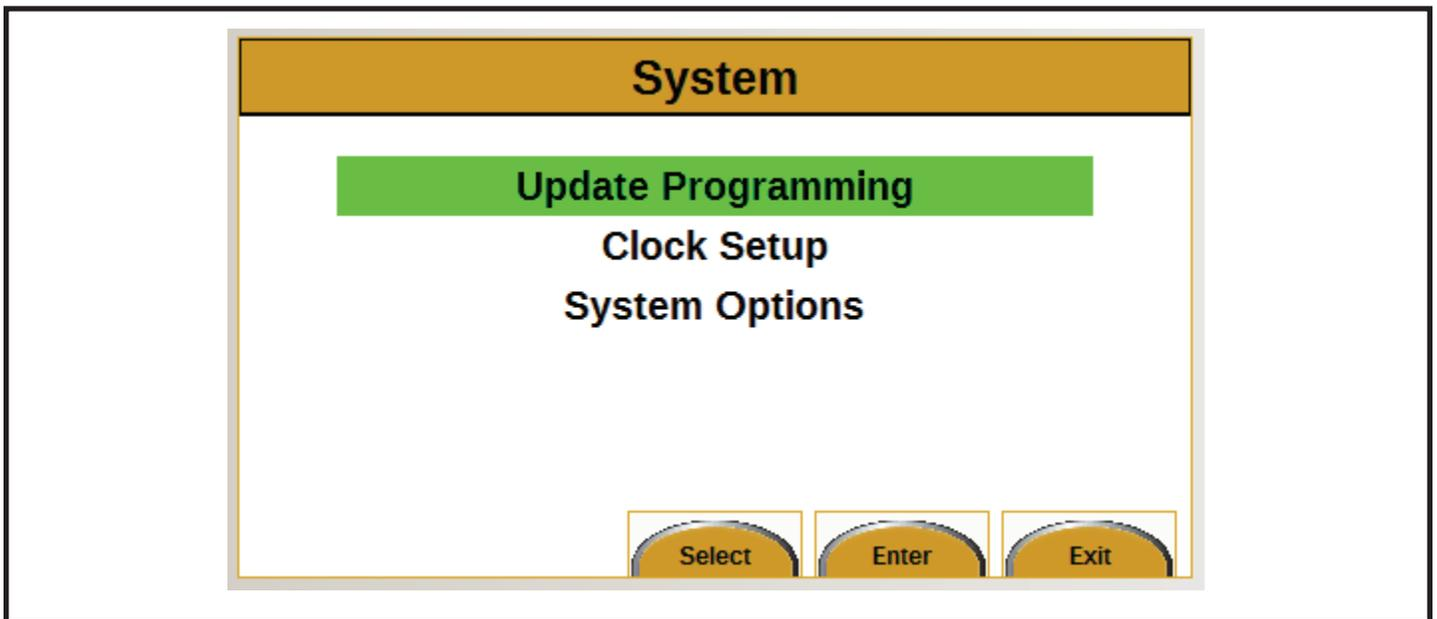

Figure 12
3. Press the Enter button. The System screen will appear (see *Figure 12*).